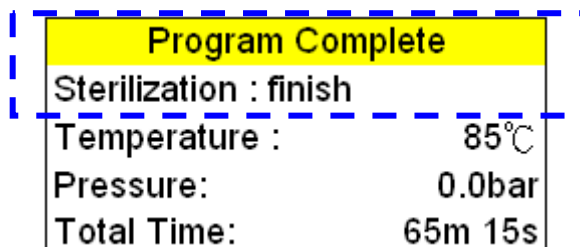

Figure 102- Program Complete
- G. On completion, the buzzer will sound and the Program Complete message is displayed as shown in Figure 102- Program Complete.